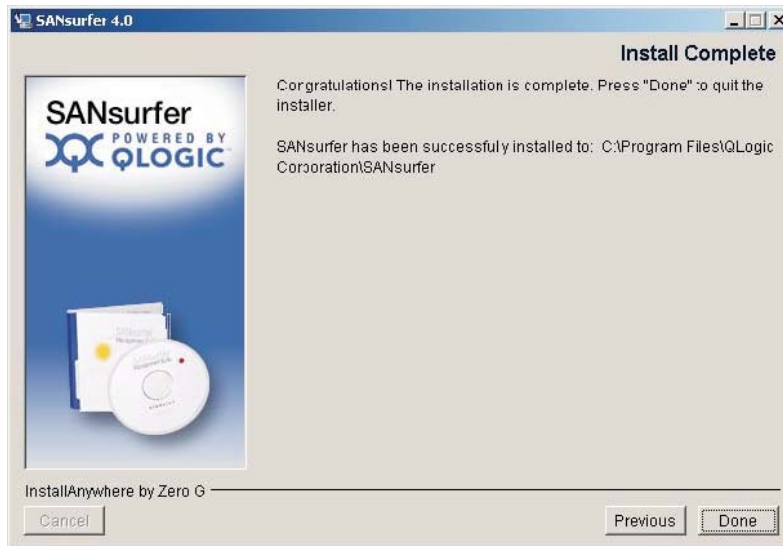

Figure 13. Install Complete window
13. The Install Complete window opens as shown in Figure 13 on page 50. Click **Done**.